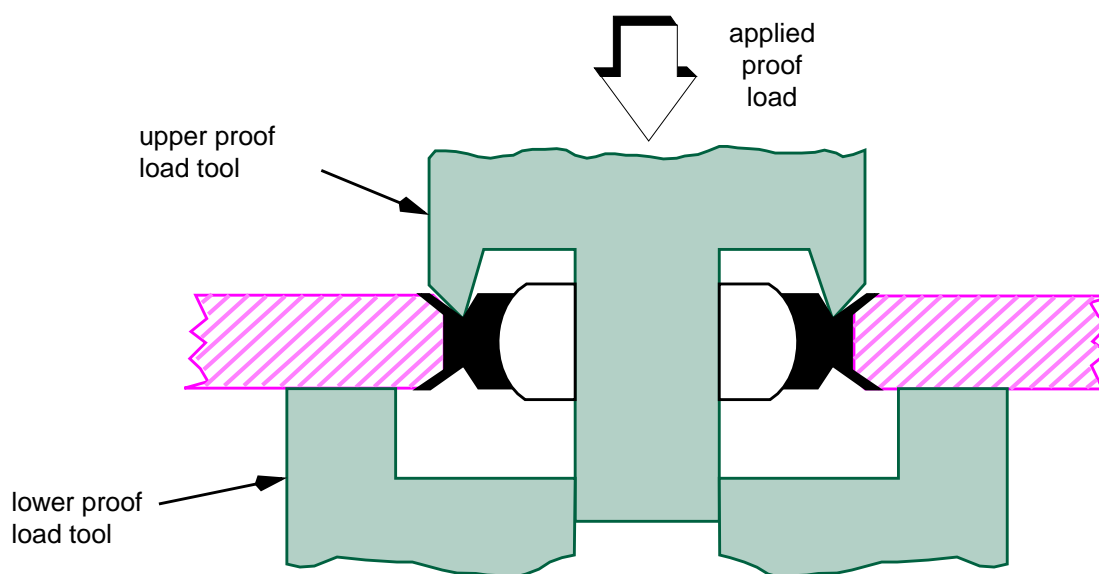

Figure 7 - Proof Loading
6.3.1 Select a sample from each production lot as specified in Table 7 and apply a proof load as shown in Figure 7 as follows: